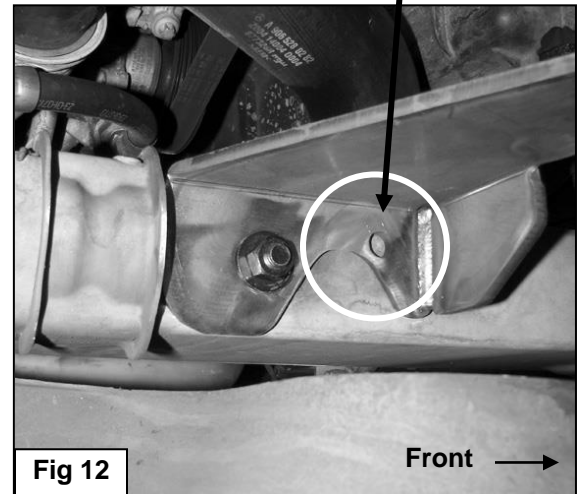

Fig 12
10. Once you have the Grille Guard completely installed and properly aligned, use the second hole, (unused till now), in each Frame Bracket as a template to mark the drilling location on the bottom of both frame channels, **(Figure 12)**. **Do not** mark the frame until after the Grille Guard has been completely installed and properly aligned and adjusted. No adjustments can be made after the frame is drilled.